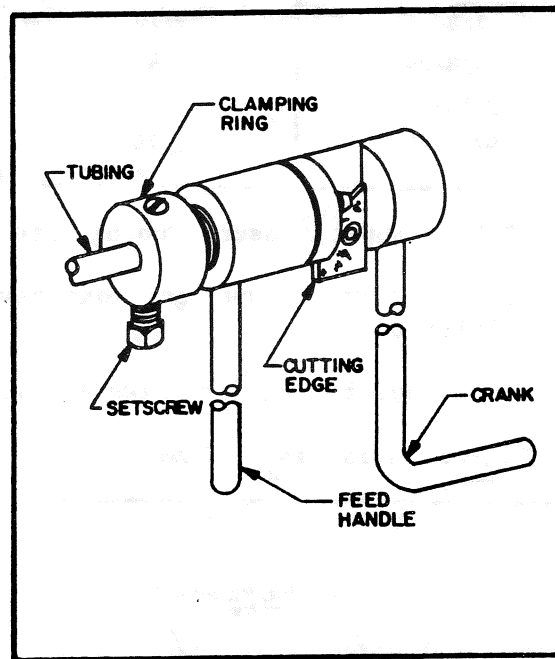

Figure 10.53. Forming Tool for Superpressure Tubing
4. Tighten setscrew to hold forming tool firmly on tubing. See Figure 10.53.